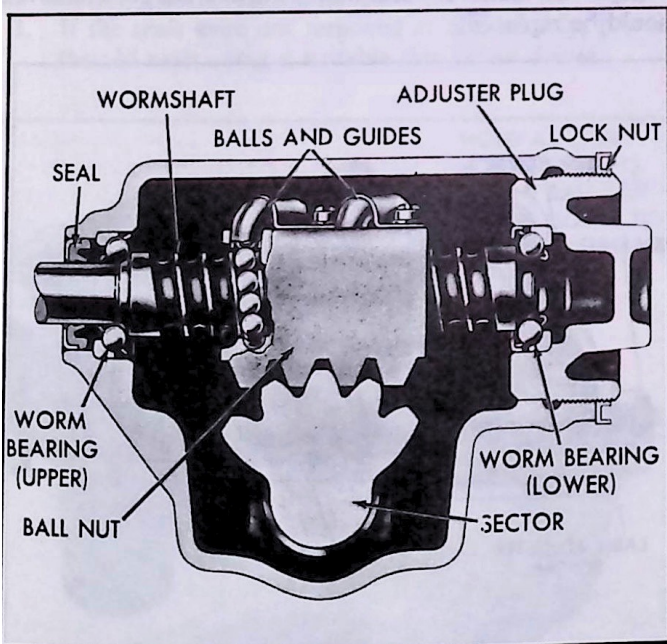

Fig. 1--Steering Gear (Except Corvette)
3. Remove the pitman arm to pitman shaft nut. Mark relationship of the arm to the shaft and then remove the pitman arm using Tool J-6632 or J-5504 (fig. 1).
Disassembly (Figs. 1 through 4)